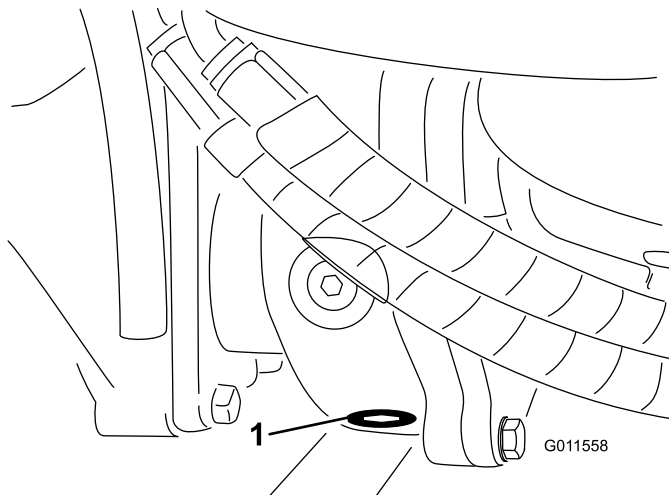

Figure 94
5. Clean the area around the drain plug at the bottom of the gear box (Figure 94).